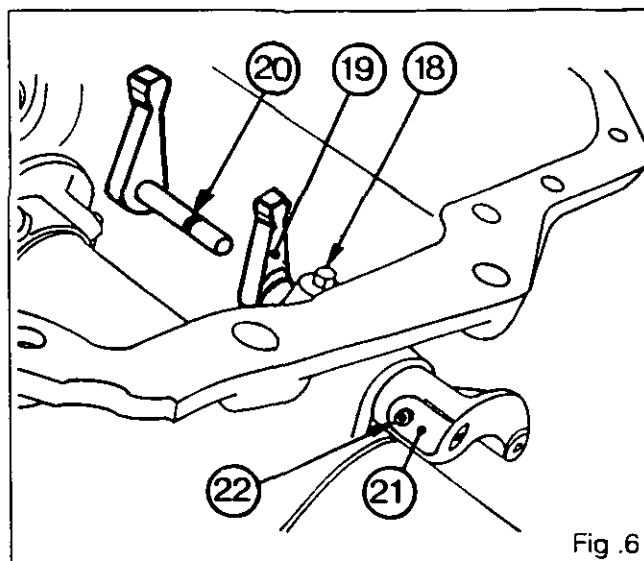
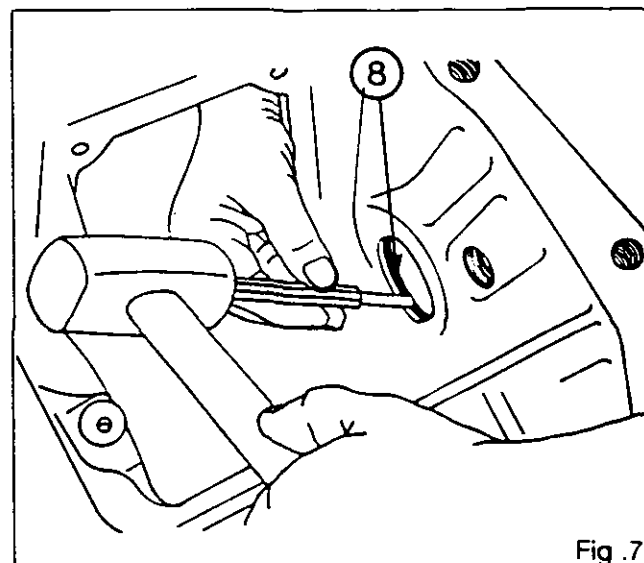

Fig. 6
Fig. 7
13. Remove the elbow connector (23).
14. Unscrew the nut (16) and remove the vehicle speed sensor (15).
15. Unscrew the nut (25) and remove the position sensor (26).
**For tractors equipped with economy 4-speed, carry out operations 16 to 19 (Fig. 6).**
16. Undo the Allen screw (22) in the lever (21).
17. Undo the screw (18).
18. Remove the control finger (19).
19. Remove the O-ring (20).
20. Flatten tabs locking the bolts (2) retaining the lift arms..
22. Remove the washers (1).
24. Remove the lift arms (5) and (11).
25. Remove the nylon rings (6) and the O-rings (7).
26. Remove the set screws (14) in the cam (9).
27. Withdraw the lift shaft (4) from the cover.
28. Remove the cam (9).
29. Withdraw the bushes (8) (Fig. 7).
30. Remove the cup plug (17) (2-speed PTO).